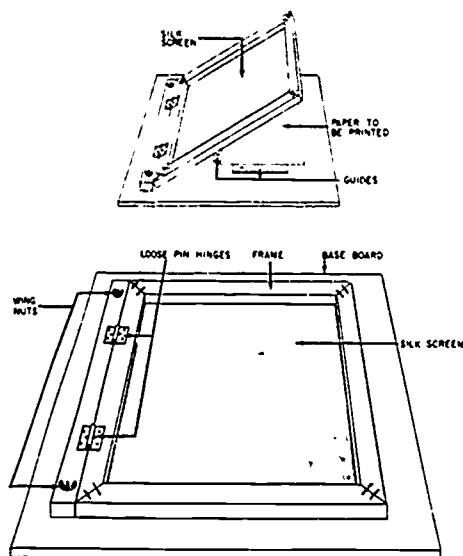

Figure 4-11. Silk screen.
**Printing Procedure.** The first step in printing by the silk screen method is to construct the frame if one is not already available to hold the screen. The frame should be built of lightweight, well-seasoned lumber, with strong joints at the corners. The frame should be fastened to a table or board with hinges, as shown in figure 4-11. The silk should be so laid that the threads are parallel to the sides of the frame. The silk is held in
**Printing.** A special paint is used. It is mixed to the consistency of thick cream. The paper or cloth to be printed is fed against register guides (see the top illustration of fig. 4-11) on the board under the silk, and the screen is lowered over it. The paint is then poured upon the screen at one end and pulled across the screen with an even pressure stroke of the squeegee. This action forces the paint through the open portion of the stencil. This operation is repeated in the opposite direction for the next print. The entire procedure is repeated until the required number of copies are printed.